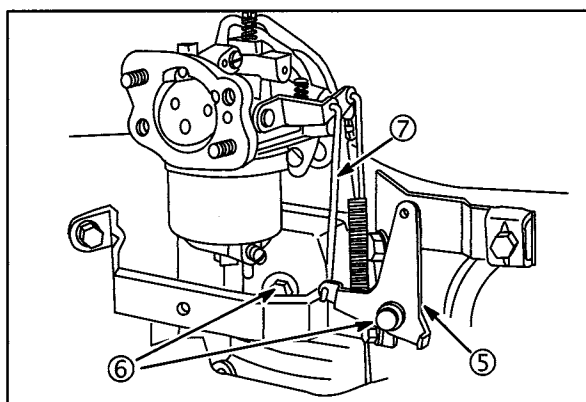
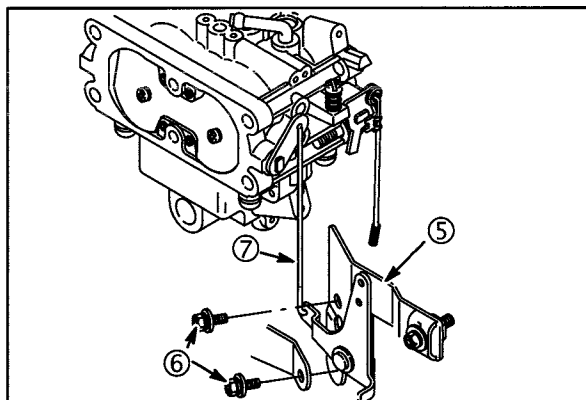

**Fig. 25**
**Fig. 26**
1. Connect governor link (3) to throttle lever (1). Snap retainer (2) over link, **single barrel carburetor, Fig. 25**, **two barrel carburetor, Fig. 26**.
2. Install governor link spring (4) in loop on retainer.